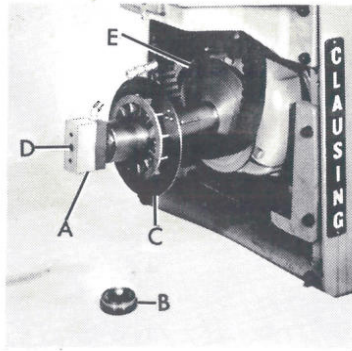

FIGURE 5
- Slide outer half of variable pulley (C, fig. 5) with hydraulic cylinder assembly (A) onto shaft (D) and inner half of variable pulley (E) being sure key and key way in pulley line up.
- Slide outer bearing assembly, consisting of bearing holder, outer bearing, bearing spacer and locknut (B, fig. 5) onto shaft (D).